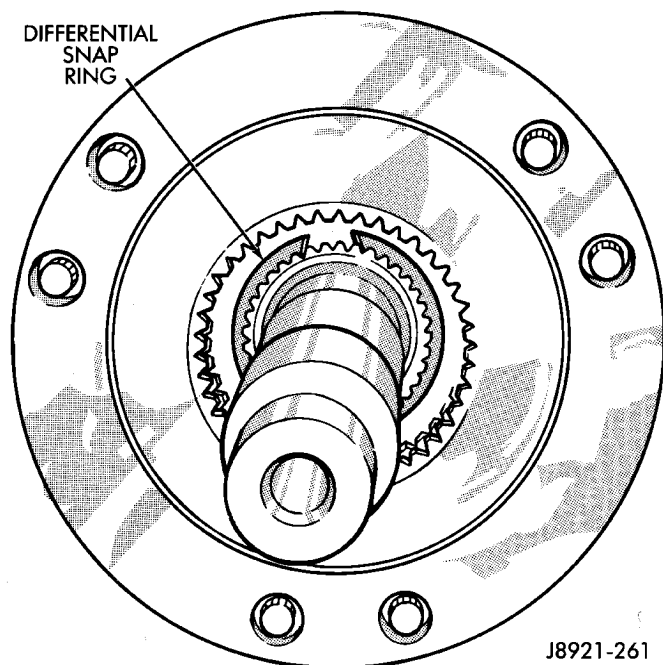

Fig. 33 Differential Snap-Ring Removal
- (10) Remove differential snap-ring (Fig. 33).